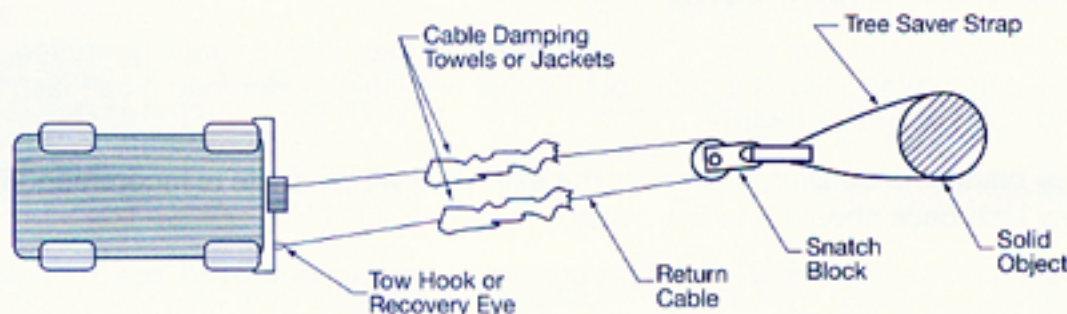

Figure 4
3. Attach return cable to tow hook or recovery eye when using a snatch block. Always use a clevis to secure snatch block to strap, or severe damage could occur to persons and vehicle. (See Figure 4). Caution: Do not attach return cable to winch mount. This may overload winch mount and/or front receiver.